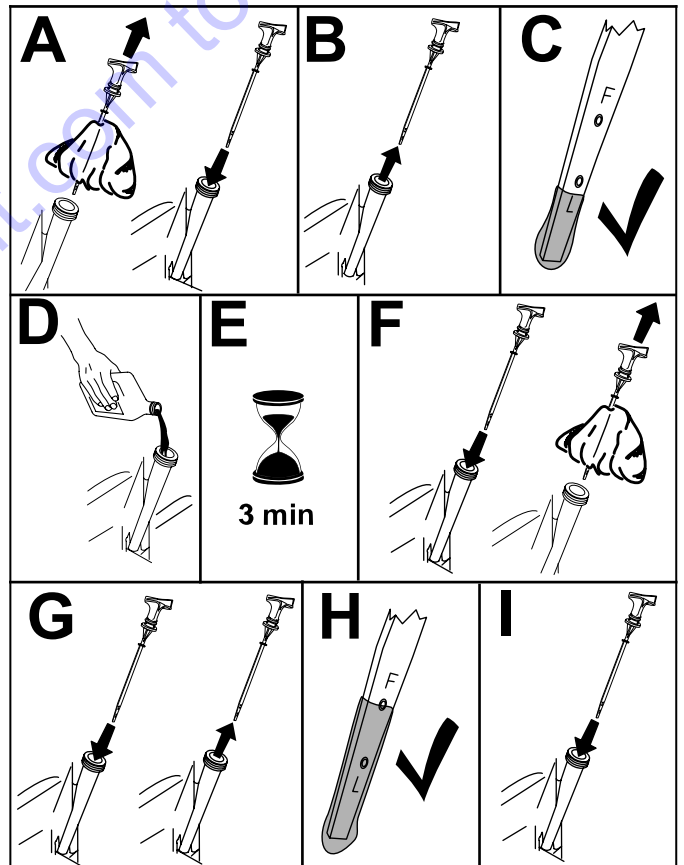

Figure 25
4. Check the engine-oil level as shown in Figure 25.